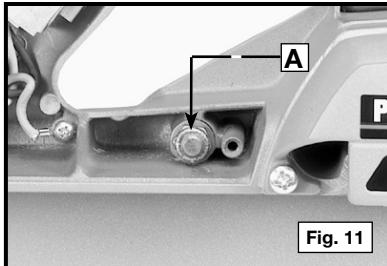

Fig. 11
Remove the five handle-cover retaining screws on the right side of the handle. Lift the handle cover to reach the cutter adjusting lever nut (A) Fig. 11. Tighten or loosen this nut until the lever's tension is sufficient to hold it securely in place. Attach the handle cover.